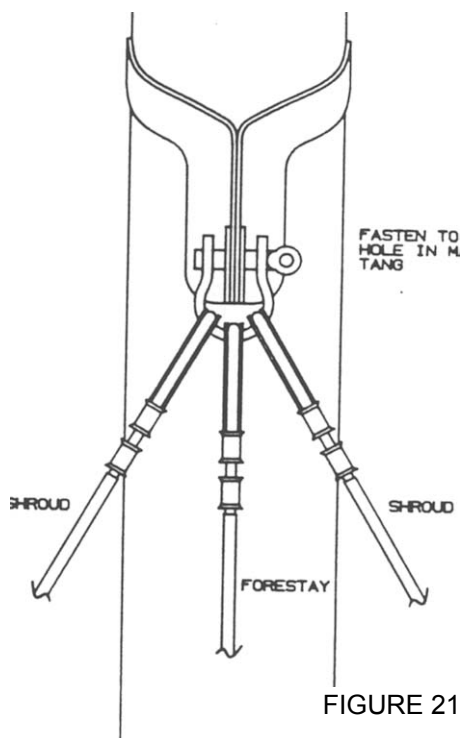

FIGURE 21
13.8 Locate the shroud wires and the upper forestay wire. Place the three wires on the large bell shackle. The upper forestay wire should be positioned between shroud wires. (FIGURE 21)
tightening, secure the shackle pin to the shackle with safety wire to prevent the pin from backing out. (FIGURE 21)